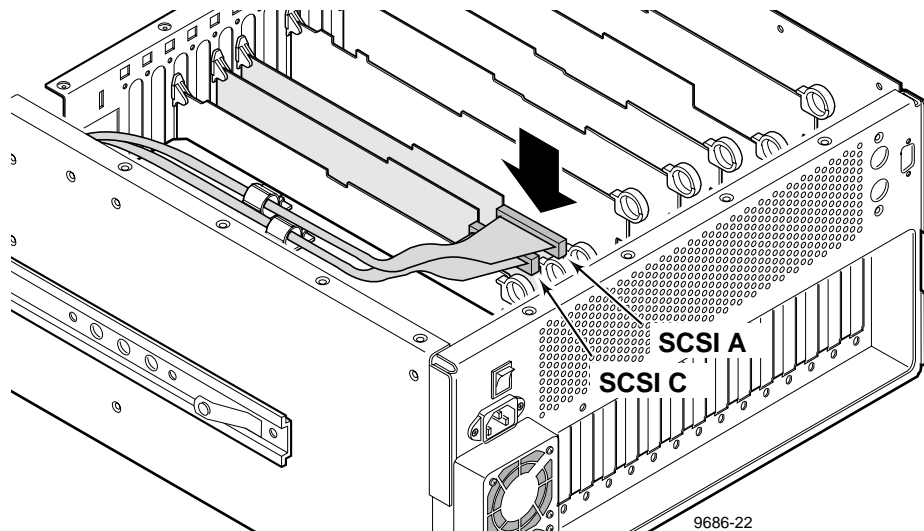

Figure 20. Connecting the SCSI cables
1. Connect the SCSI cables to the disk recorder boards. Connect the cable marked **A** (the cable connected to the inner plug in the disk tray) to the Master Disk Recorder board; connect the cable marked **C** to the Slave Disk Recorder board. Be sure to use the hold-downs on top of the power supply to dress the SCSI cables. See Figure 20